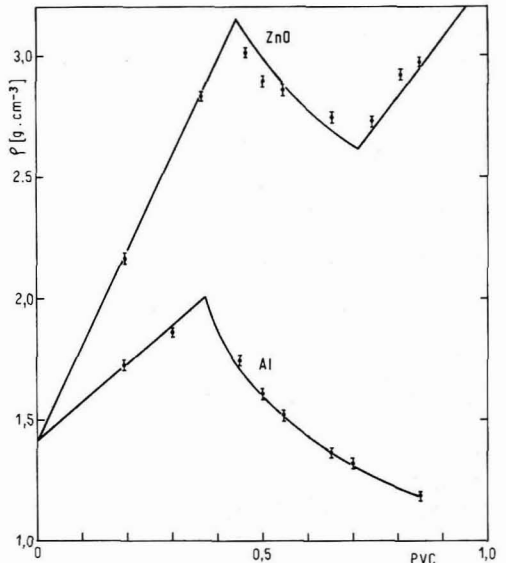

Figure 7—Film density against PVC for zinc oxide and aluminum films
Figure 7 is a direct representation of the experimental data for zinc oxide and aluminum. The lines were drawn using equation (8) for Region I and equation (11) for Region II; an ideal system was again assumed for Region III. The necessary values of PVC and CPVC\* were taken from the linearized plots.